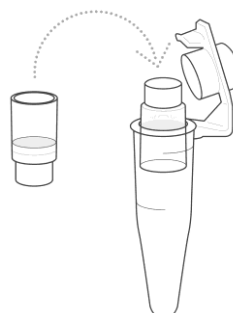

Figure 3
11. Discard the 1.5 mL Tube and place a new 1.5 mL Tube (provided) over the top of the DNApure Column. Turn the assembled device upside down (Figure 3) and place in centrifuge, aligning open cap towards the centre of the rotor, counterbalance with a similar device and centrifuge for 3 minutes at $1000 \times g$.